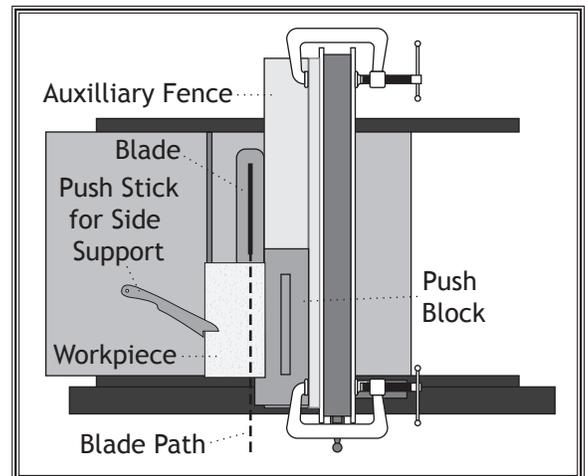

Figure 98. Push block in position to push workpiece through blade.
3. Place workpiece 1" behind blade and evenly against table and auxiliary fence (see **Figure 98**).